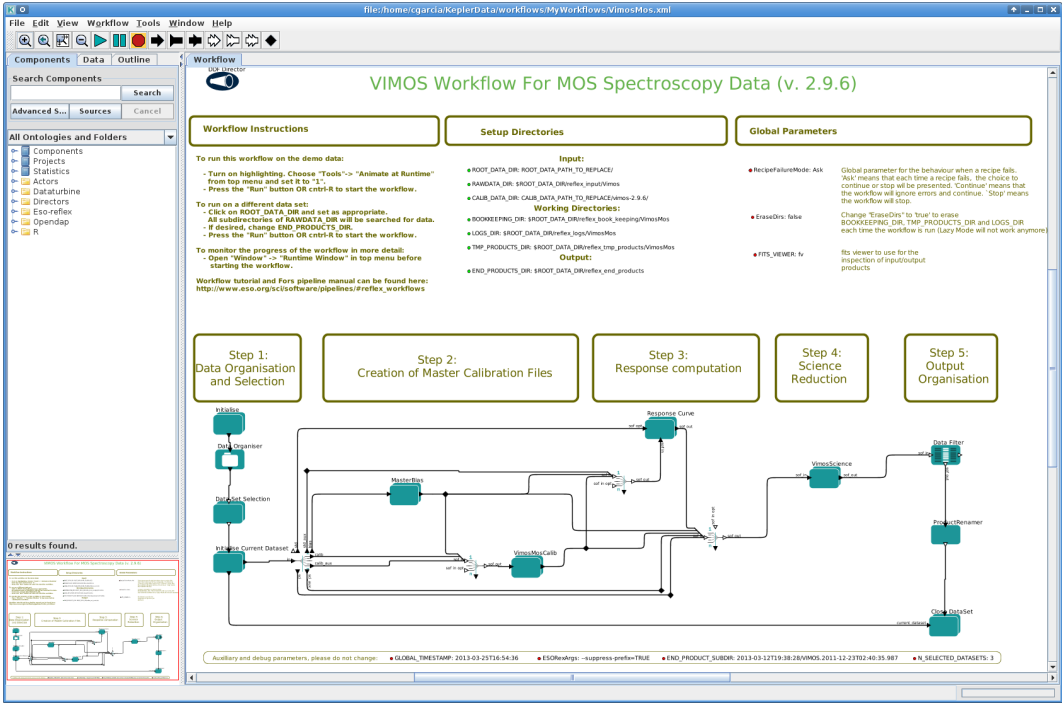

Figure 4.2: *VIMOS/MOS workflow general layout.*
2. Now open the VIMOS workflow by clicking on File -> Open File, selecting first vimos-2.9.15 and then the file VimosMos.xml in the file browser. You will be presented with the workflow canvas shown in Figure 4.2. Note that the workflow will appear as a canvas in a new window.